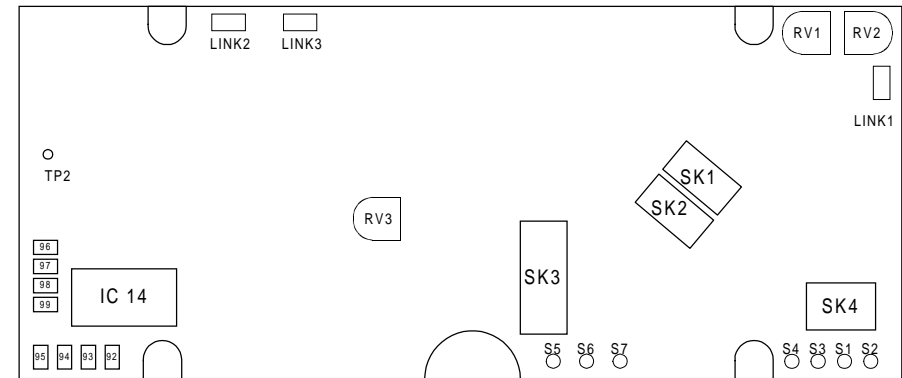

Figure 5 T800-32-0010 Link Location - Top Side
- If the transmitter will be operating in VHF (frequencies <360 MHz), solder short LINK2 and LINK 3 (see Figure 5).